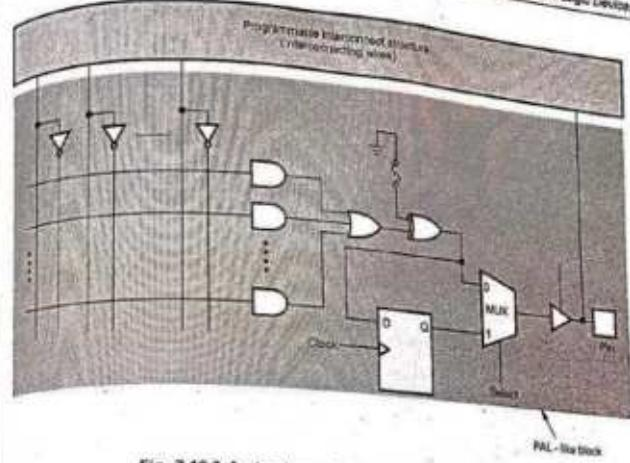

Fig. 7.16.3 A structure of typical macrocell of a CPLD
- The Fig. 7.16.3 shows the typical macrocell for CPLD. Each AND-OR configuration usually consists of 5-20 AND gates and an OR gate with 5-20 inputs.